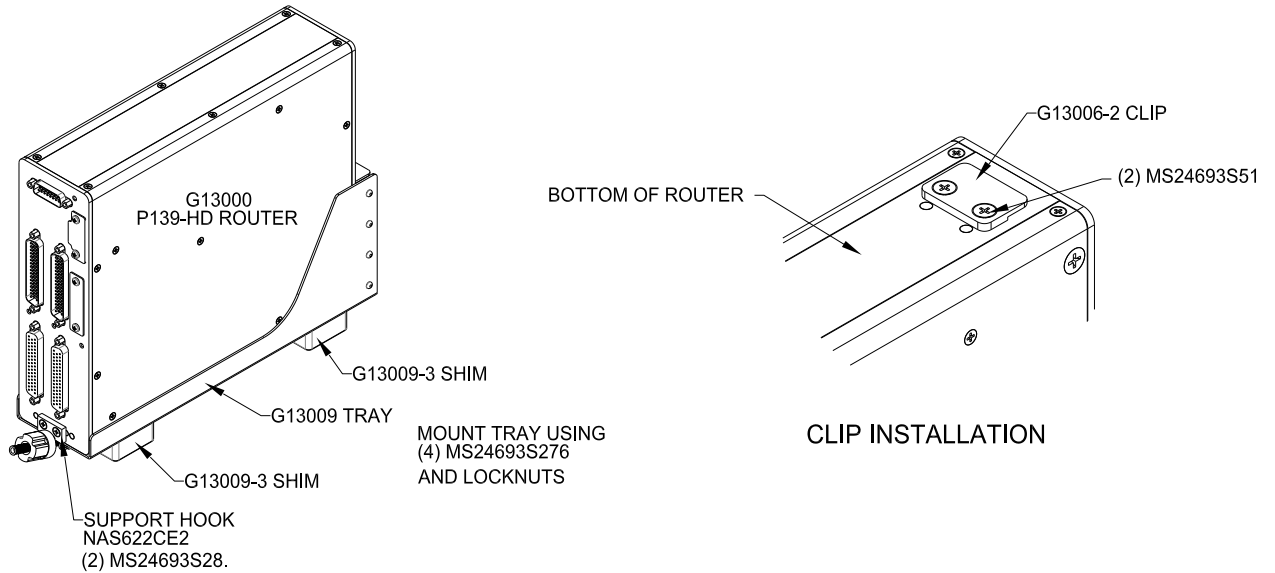

Figure 4
- 3.3.2. Optional: The installer may install the Router onto an avionics shelf or bay with a 5 lb. minimum load rating. Install using hardware shown in Figure 4.